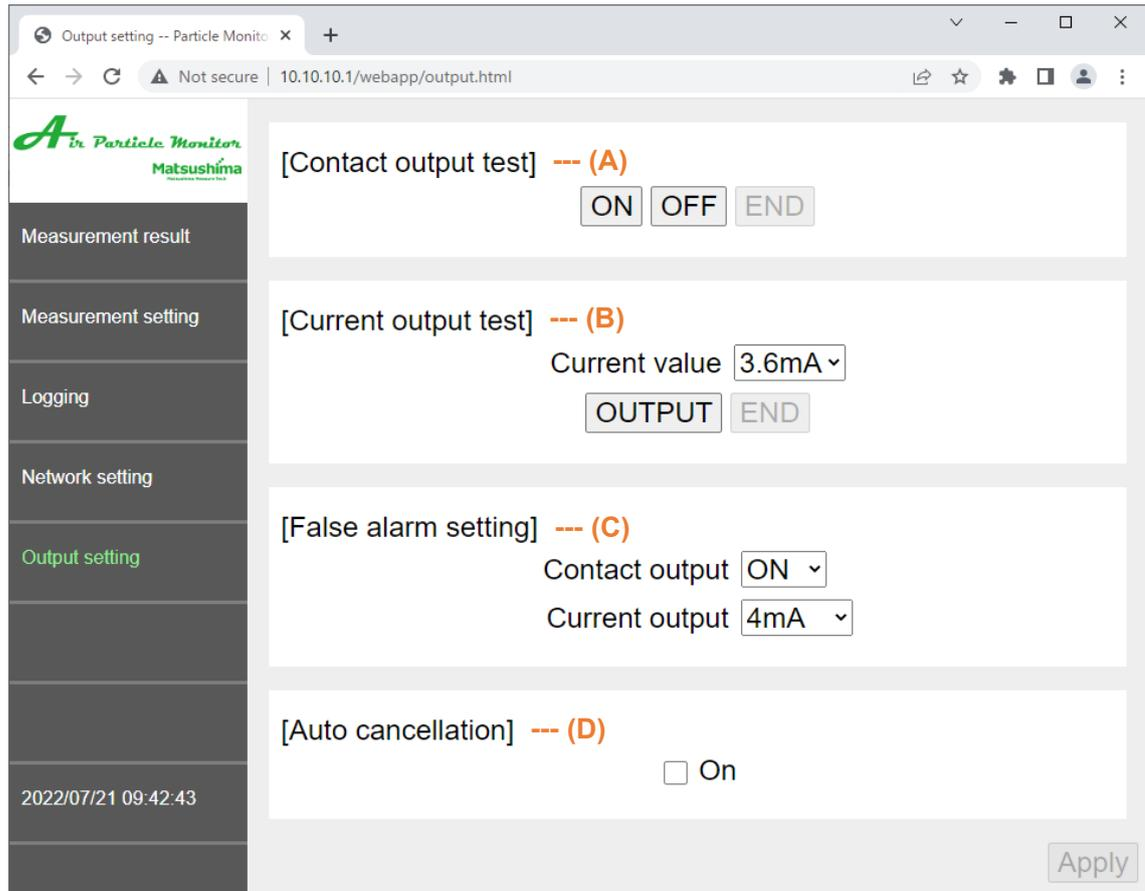

Fig. 17: Screen of output setting
**(#1) During output testing, the status LED is flashing with the status color, and "Now testing" is displayed on Output setting button in the left of Fig. 17 when output testing.**
**# When completed output tests (A) and (B), please be sure to press the End button without Valid on (D). The output testing will be continued if not press the End button.**